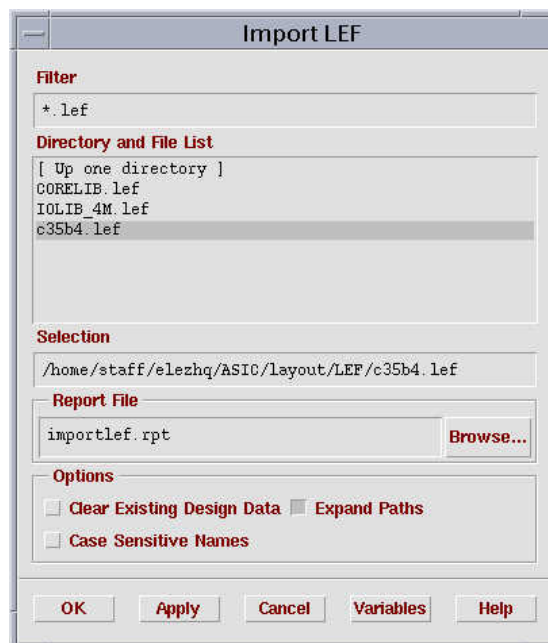

Figure 7-5 Import LEF form.
2. To load the **LEF** files which include the descriptions of the technology used, click on **File→Import→LEF...** and the **Import LEF** form appears as shown in figure 7-5. Choose **c35b4.lef** and then click on **Ok**.